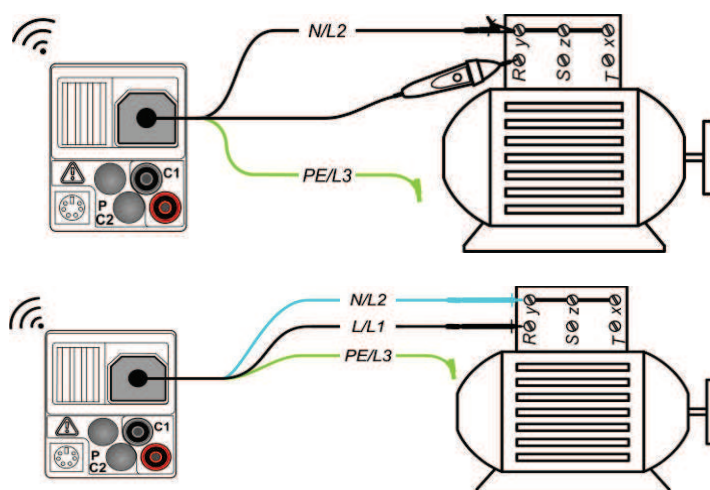

Figure 5.11: Using the "Commander" test probe and the three-wire test cable
- ❑ Connect the test cables to the test object (see figure 5.11).